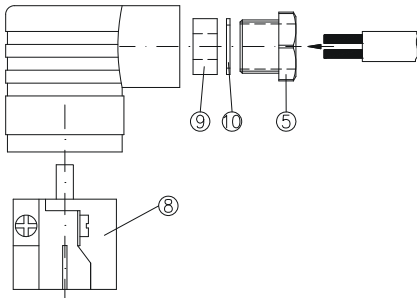

Fig. 10
- ↪ Insert the supply cable through the screwed cable gland ⑤, the pressure ring ⑩ and the rubber insert ⑨ into the cable socket ② (⇒ Fig. 10).